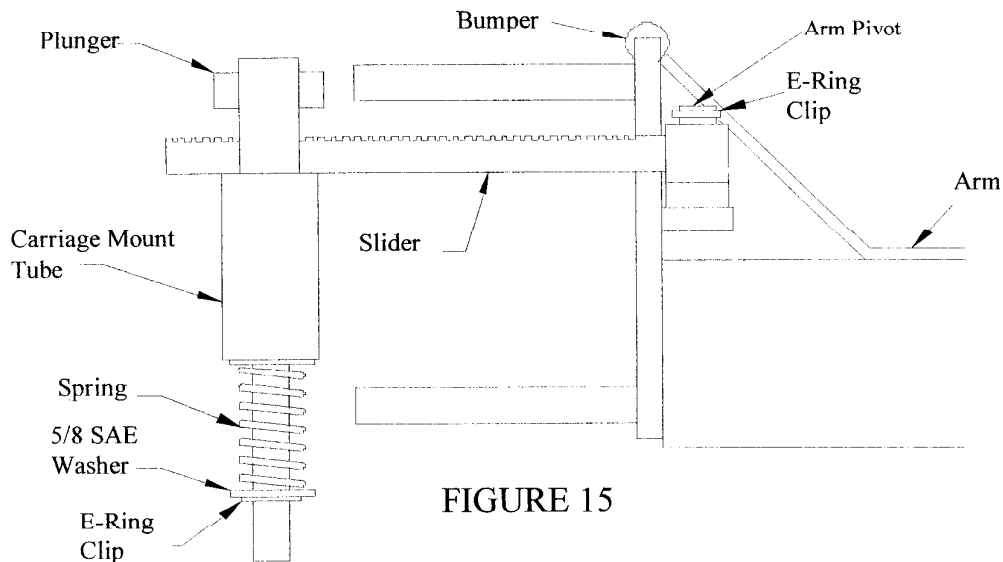

FIGURE 15
34. Install the swing arm slide locks as shown in Figure 15. The 11" sliders are installed on the short swing arms.
37. Raise the lift to the top of its travel and lower it the floor three (3) times (WITHOUT A CAR) to remove the last air from the hydraulic system.
38. Install the rubber bumper strips on the tops of the long swing arms. They just push right on. Figure 15.